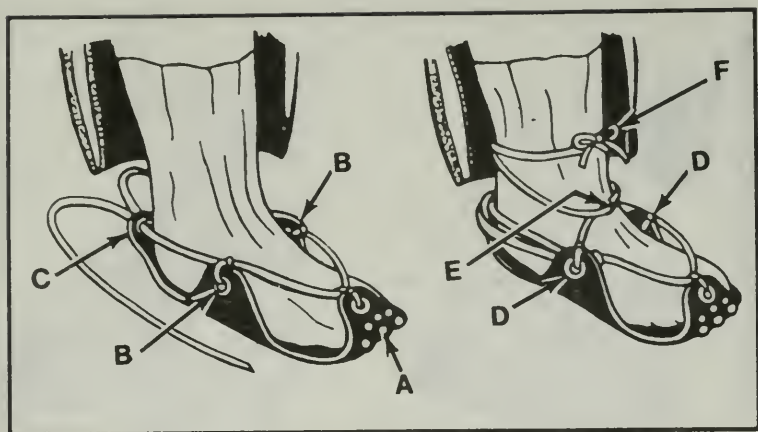

Figure 272. Lacing the old model overboots.
(1) The older model, Figure 272, has a single eyelet at the rear. To don the cover, put it on either foot, and center your foot on the sole. Smooth the excess material as flat as possible, and follow these lacing steps.